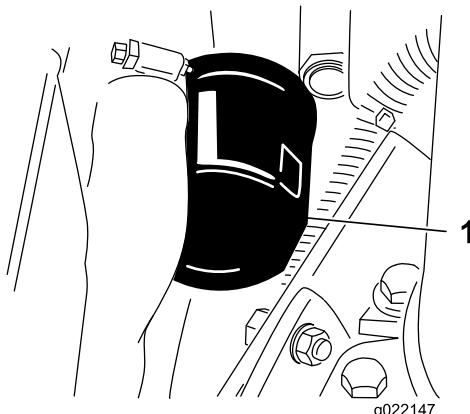

Figure 54
3. Remove the oil filter (Figure 54).